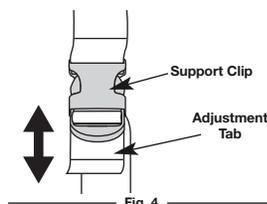

Fig. 4
2. Adjust by lifting slightly on the rear of the lower clip then push or pull the loose end of the strap length to fit the operator's size and comfort. (Fig. 4).